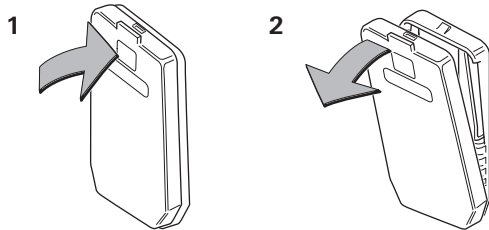

Fig. 3a
- Press the palm against the lid (Fig. 3a - 1) while pulling the lid off the cowl (Fig. 3a - 2).